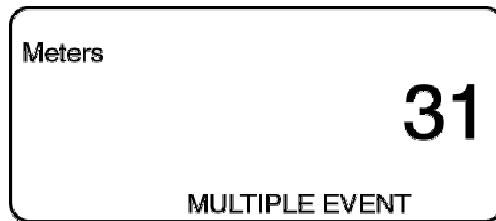

Figure 6
When the MicrOTDR detects multiple events, event number (1) will flash, and the MULTIPLE EVENT annunciator will be displayed. The distance to event number (1) will then be displayed, and the event number (1) will extinguish. Refer to figure 6 below. This example shows that the distance to event number (1) is 31 meters.